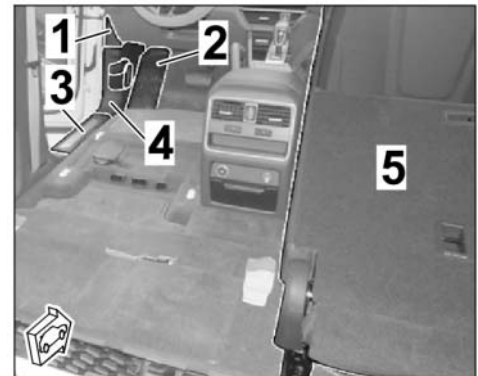

Figure 7
1.5 Expose the A-pillar area (left side) ( ⇒ *Figure 7* )